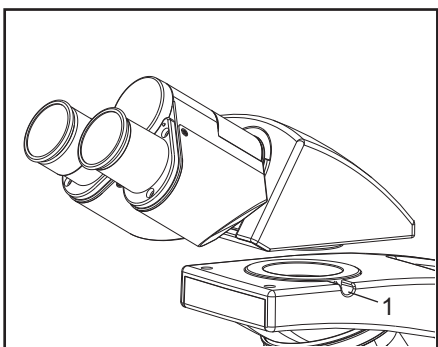

Fig 8
1. Using allen wrench 3mm (provided), loosen the head locking screw (1) and remove the dust cover cap provided in dovetail cavity as well as on observation head dovetail.
3. Tighten the head locking screw (1) after positioning the observation head as desired. See Figure 8.